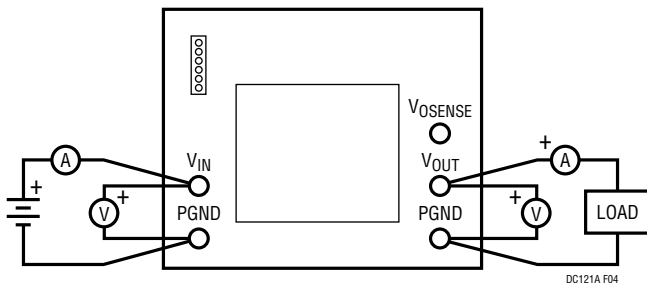

Figure 4. Correct Measurement Setup
- Connect the load between the V_{OUT} and GND terminals. Refer to Figure 4 for proper measurement equipment setup.
When trying to measure voltage regulation, remember that all measurements must be taken at the point of regulation. This point is where the LTC1434's control loop looks for the information to keep the output voltage constant. This information occurs between pin 12 and pin 5 of the LTC1434. These points correspond to the output terminals of the demonstration board. Test leads should be attached to these terminals. **Measurements should not be taken at the end of test leads at the load.** Refer to Figure 4 for proper monitoring equipment configuration.